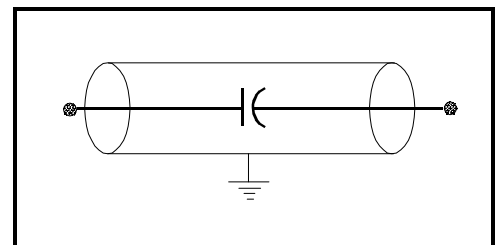

Figure 5. Inside DC Block
1. **INSIDE** - The high pass filter is in series with the center conductor as shown in Figure 5. DC is blocked on the center conductor.